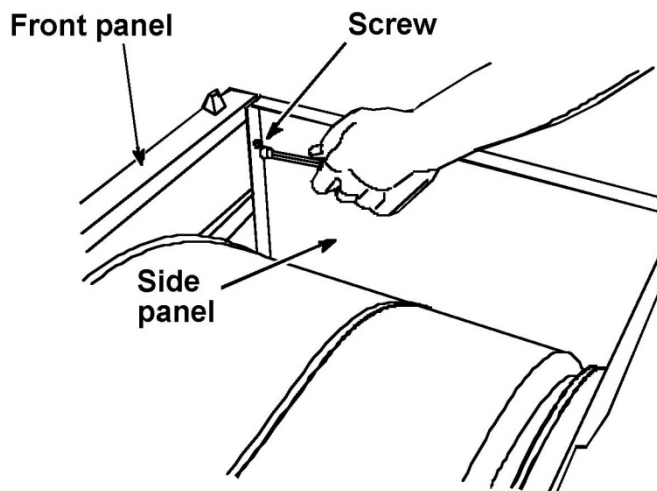

FIGURE 1
5. Remove the lint screen. Remove the two (2) screws from the lint screen area.
8. Remove the two (2) internal screws from the upper inside edge of the front panel flanges. Using gloves, lift front panel off the lower clips (front of drum will drop slightly). Set front panel aside. See *Figure 1*.